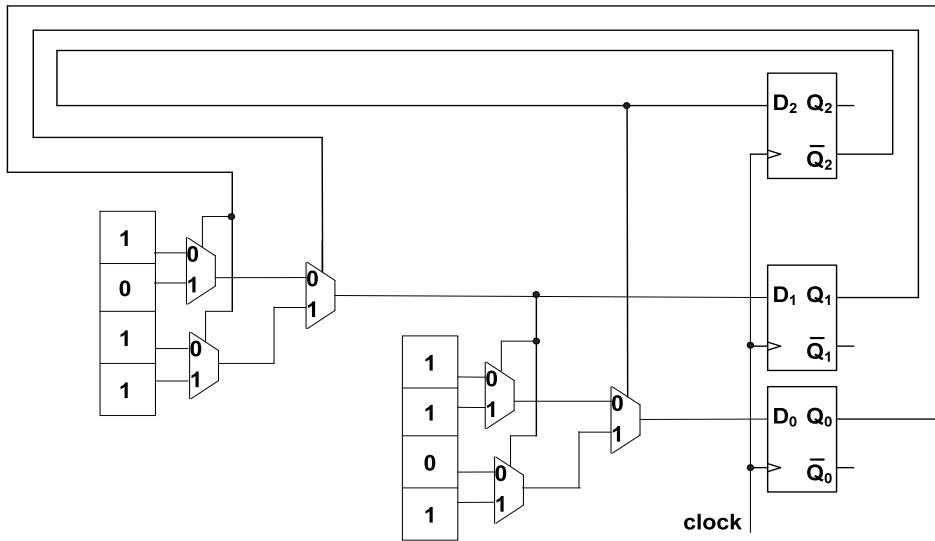

Figure 8 - Circuit for question 13.
13. In Figure 8, if the current state is $Q_2Q_1Q_0=101$, then the next state will be: